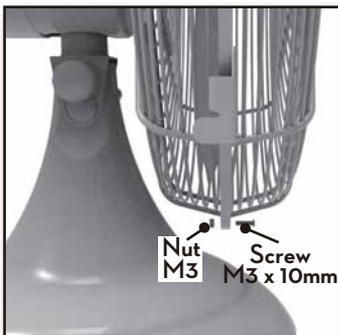

Figure 12
7. Mount the front grill to the rear grill, tighten the grills using the grill locking screw and nut at the bottom of the grill. Figure 12.